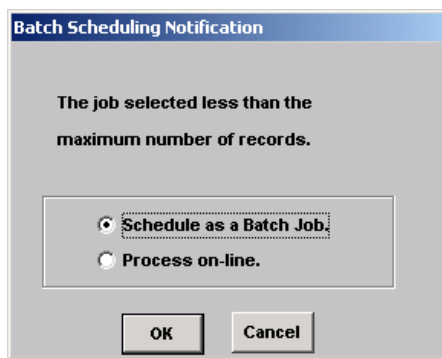

Figure 6.35
- 6.8.1.6 If a single listing is selected and less than 50 records exist for that report the **Batch Scheduling Notification** window (Figure 6.35) appears: